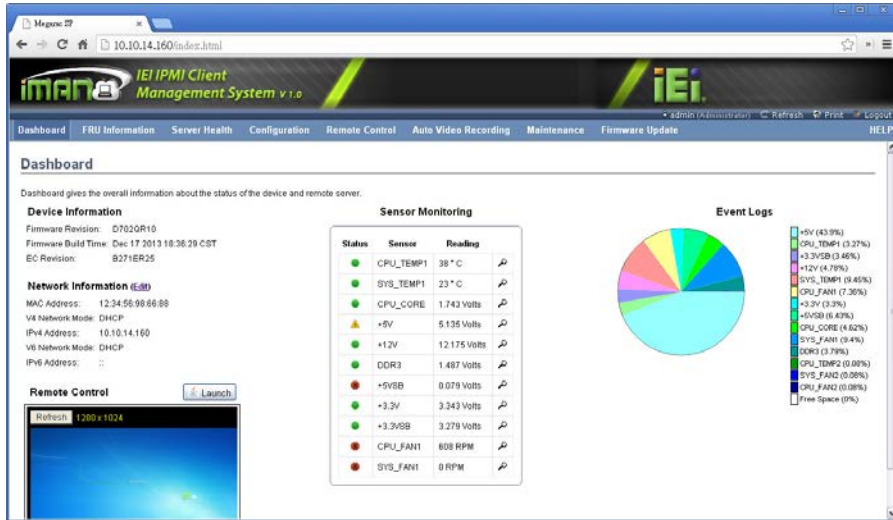

Figure 4-15: IEI iMAN Web GUI
- Step 6:** The IEI iMAN Web GUI appears (**Figure 4-15**).